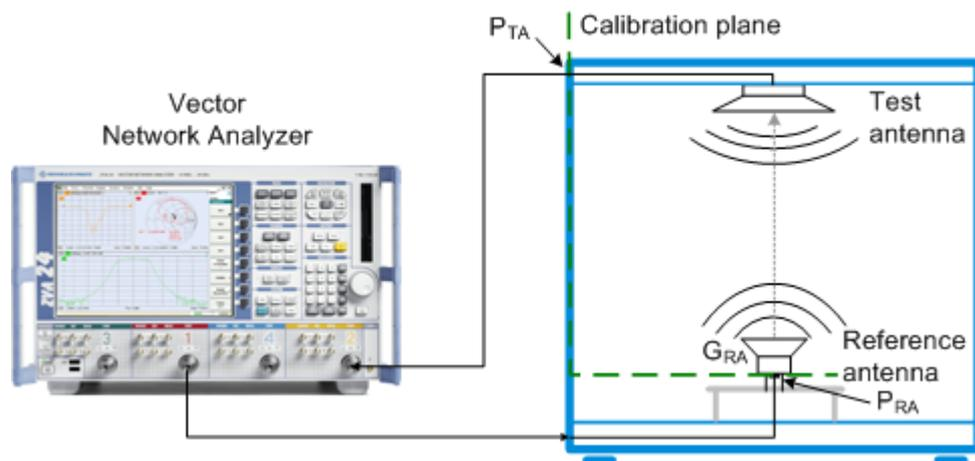

Figure 4-3: VNA test setup for transmission measurement
The N(m) connector of this adapter is the *first reference plane* "RA" (see P_{RA} in Figure 4-3).
17. Connect another RF cable with suitable connectors to any other port of the VNA, for example port 2. This cable must be long enough to reach the N connectors "Pol. FB" and "Pol. LR" for test antenna feed at the top of the R&S DST200. Do **not** connect this cable to any of those test antenna feed connectors. The N(m) connector at the loose end of this cable is the *second calibration plane* "TA" (see P_{TA} in Figure 4-3).